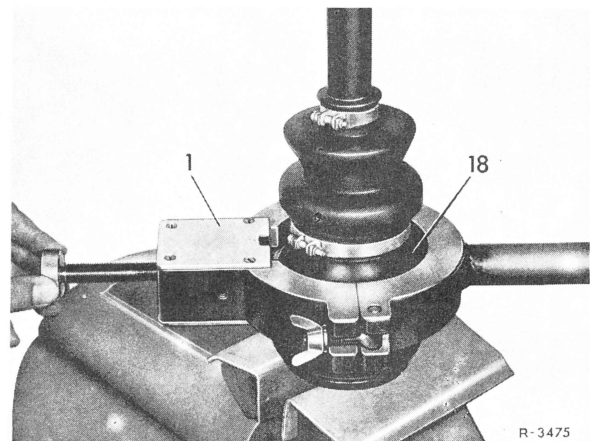

Fig. 2
- 1 Cut stop sleeve (18) of constant velocity joint on beaded edge with cutting tool (Fig. 2).